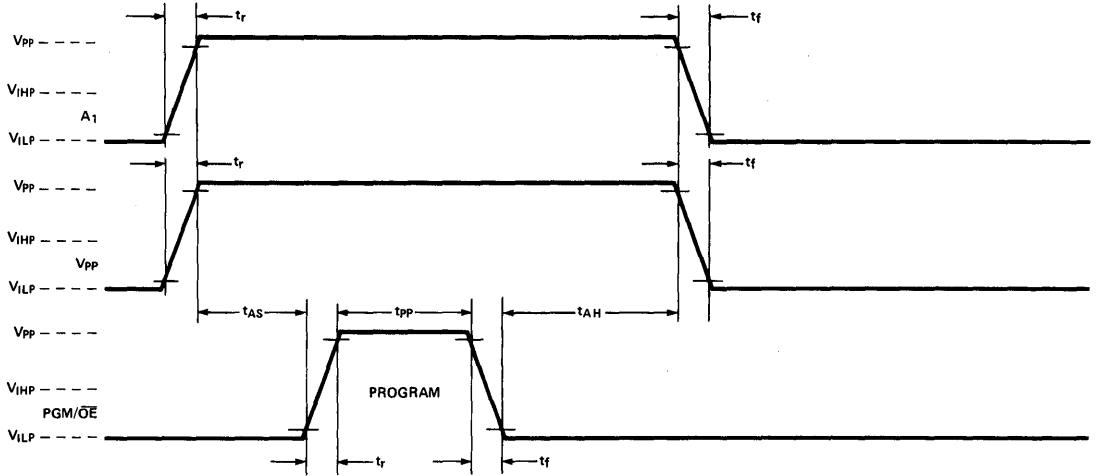

Figure 8. Activating Program Security
8. See Figure 8 for security programming sequence.